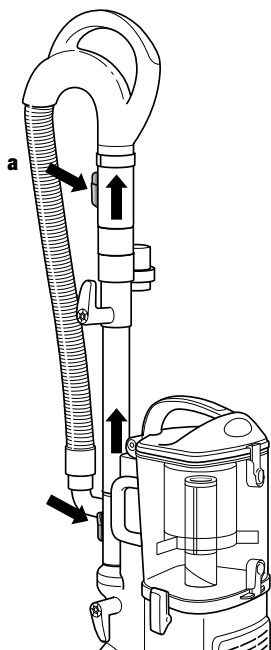

Fig. 12
- 2 Press the handle release button **(a)** and pull the handle up or press the extension wand release button **(b)** and pull the extension wand up. **(Fig. 12)**